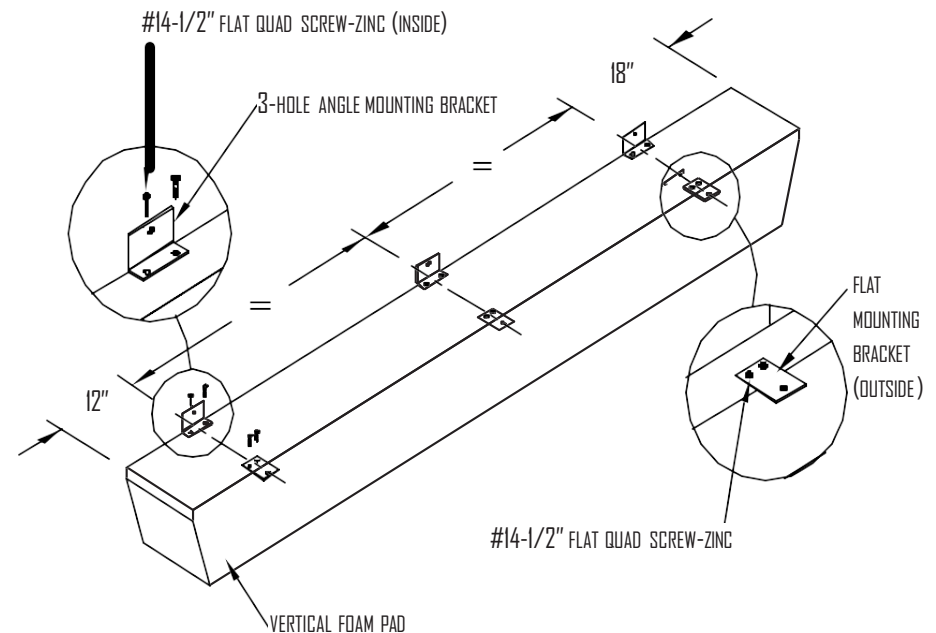

FIG 2
- Mark and drill holes at centre as well as 12" from bottom end and 18" from the top end of the frame (Fig. 2).
- Use information from Step. 2 and Fig.2, determine position of vertical frame's bottom edges.
NOTE: Final location of the bracket to be determined by the installer to suit spacing of the mortar joints or other wall configurations. Common location of brackets is one at centre and 12" from bottom and 18" from top (FIG.2).